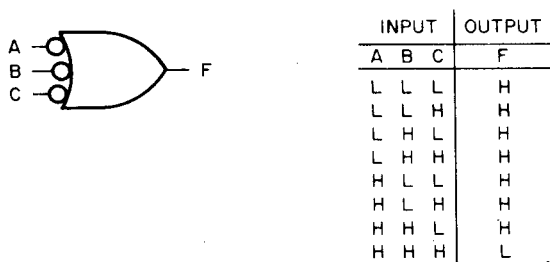

Figure 8-5 Symbol, NOR Function
- c. **NOR**—The symbol in Figure 8-5 represents another version of the NOR function. The output (F) is high if one or more of the inputs